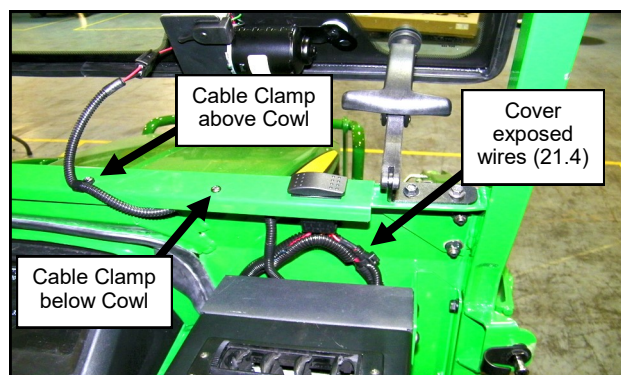

Fig. 21.3 (Secure Wires to Cowl)
- 21.3 Open the windshield and secure the wiring harness to the cowl using cable clamps. Verify the wiper harness routing allows the windshield to be opened and closed without the harness getting pinched under the windshield. See figure 21.3.